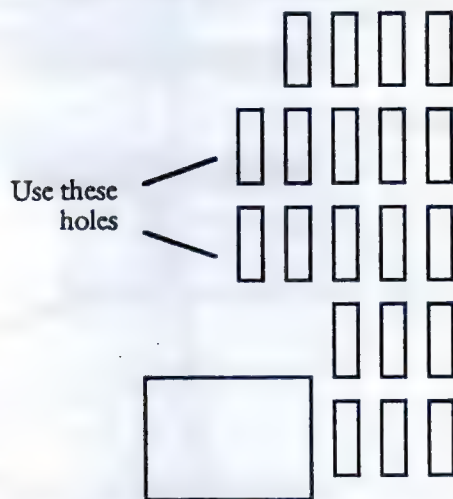

Figure 11 : Bottom view of chassis
2. Lay the Mac face down on the foam pad with the bottom facing you. Place the supply with the screw holes positioned behind the two slots in the chassis which are furthest to the left. See figure 11.